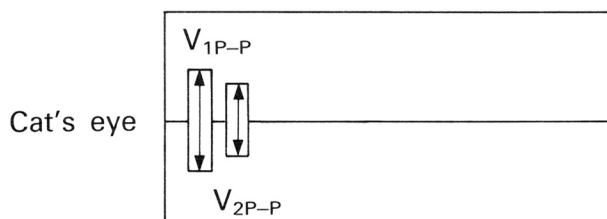

Fig. 8-3
- a. After moving the head to track 40 where the cat's eye is recorded, turn the stepping motor for the head feed by hand so that 2 outputs just after the indexes are almost equal to each other ($V_{1P-P} = V_{2P-P}$) as shown in Fig. 8-3.